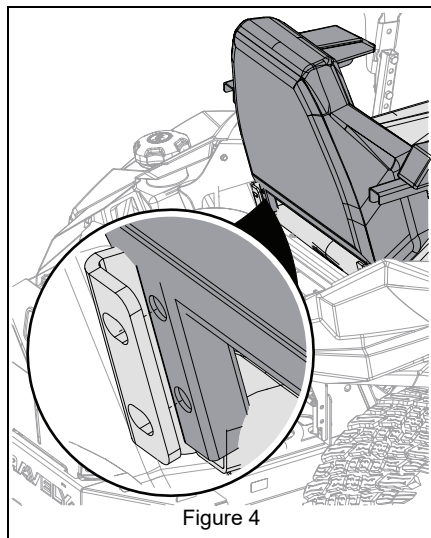

Figure 4
2. Align holes in backrest with holes in seat base. See Figure 4.